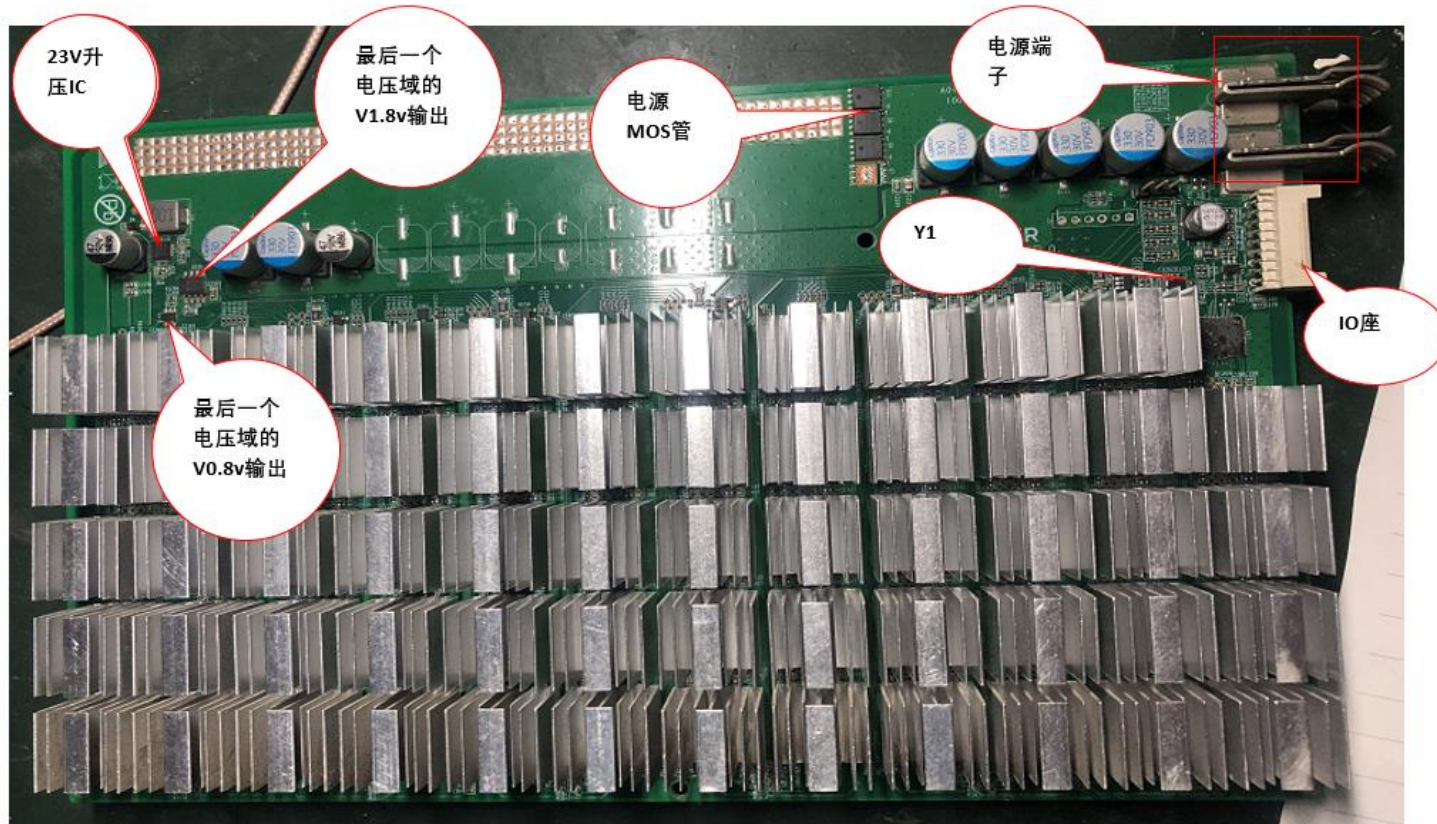

Figure 2 Key circuits on the front of computing board S15
2.2 The key circuit on the front of the computing board (Figure 2)